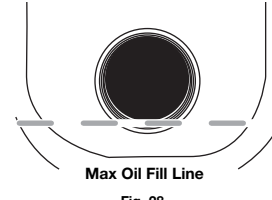

Fig. 28
5. Look into the oil fill hole, use a flashlight if needed. The oil should be just touching the inner most thread (Fig. 28).